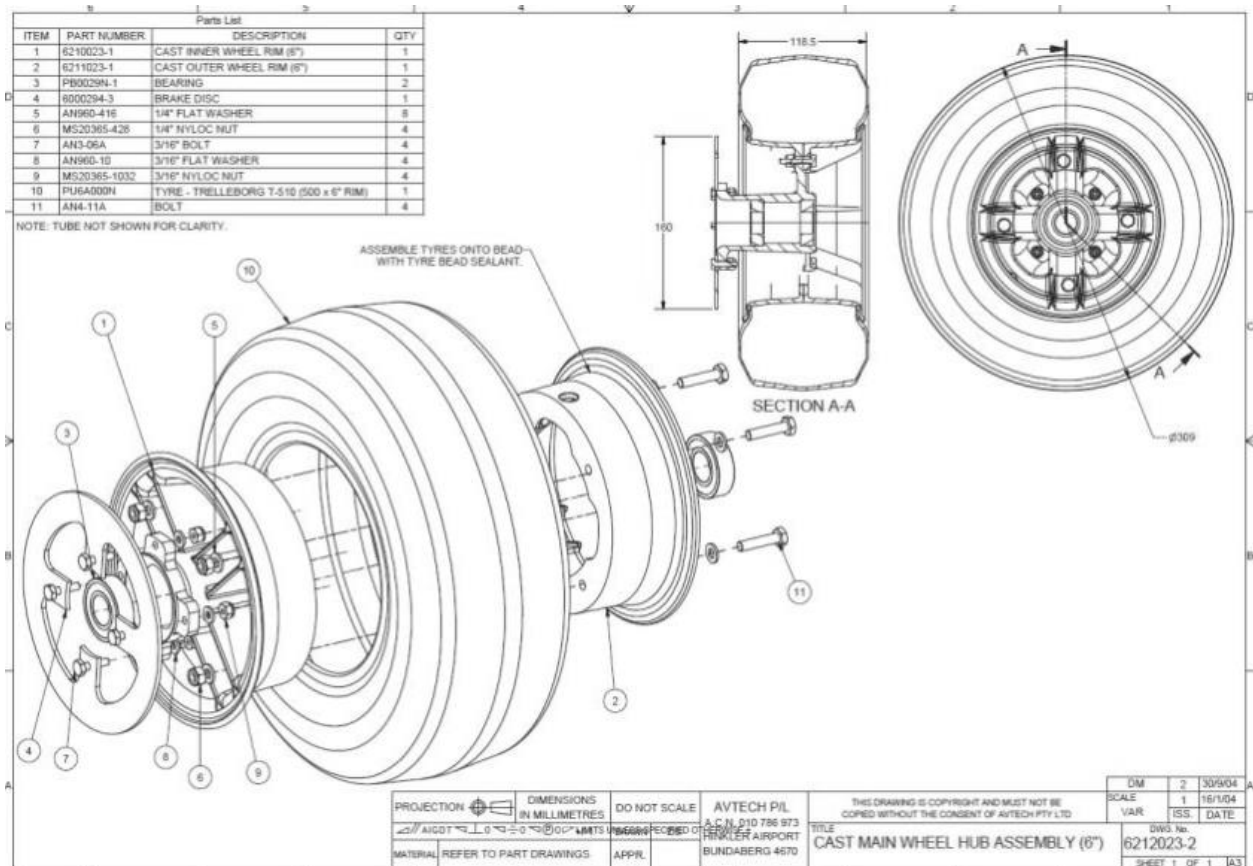

Figure 74 – Main Wheel Assembly (all J-Series)
- Figure 74 shows a typical wheel assembly. While details and part numbers vary from model to model the general arrangement shown applies to all aircraft.